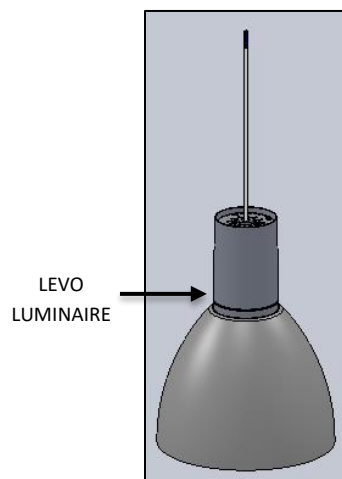

FIG. 2 - LEVO LUMINAIRE
1. LEVO LUMINAIRE with CORD attached. (Pre-assembled as shown in FIG. 2)